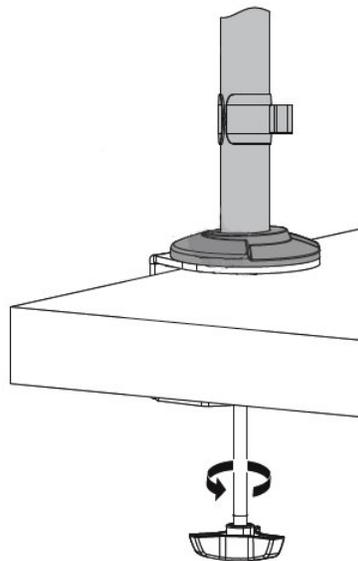

Figure 2
2. Position the Tube Support to the desktop. Loosen the clamp screw according to the thickness of the desktop. Tighten the C-Clamp to the desktop by turning the clamp screw clockwise, see Figure 2.